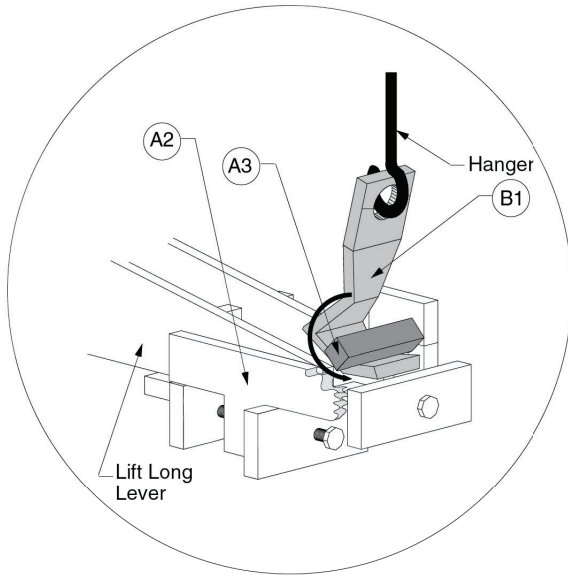
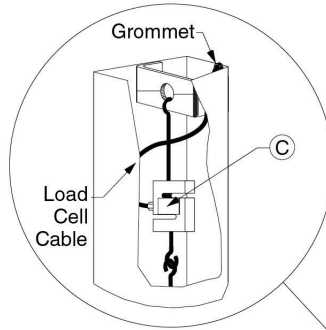

Figure No. 2
Figure No. 3
5. Hook end of shock absorber and draft rod assembly to one end of the load cell assembly (C). See Figure No. 3. **NOTE:** Handle load cell assembly with care! Do not drop, bend, or twist.
8. Fasten the top hook bolt of the load cell assembly (C) to the column (B). (Note: Load cell assembly should not touch sides of the column.)
9. If available, place the scale on a table or workbench, otherwise place the scale on the floor. In either case, **DO NOT** tilt or place the scale on its side. Next, push the bottom of the hanger (B1) back towards scale weighbridge (A), lift the long lever and nose iron (A2) up, then slide the hanger (B1) under the nose iron pivot (A3). See Figure No. 2. After the hanger is attached, tighten the four (4) 1/4-20 screws. See Figure No. 1 for column (B) mounting.